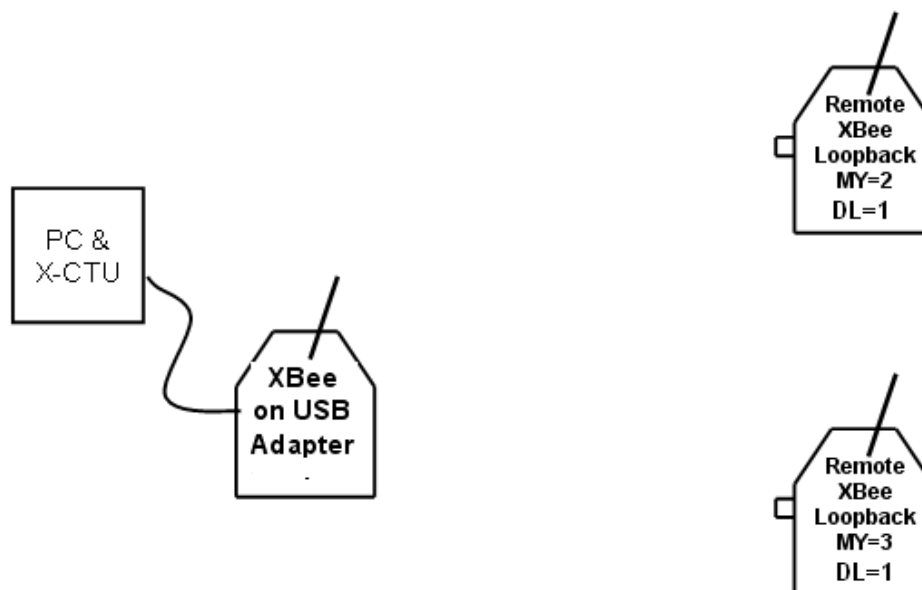

Figure 3-10: Multi-Node Addressing Test
Remote XBee modules may be manually configured for different addresses. If you have multiple remote XBee modules, you can set them up for loopback and the addressing scheme shown in Figure 3-10.
- ✓ Read and modify MY and DL address as shown in Figure 3-10 using **Modem Configuration** to ensure it is not temporary.